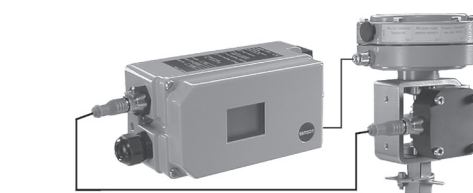

Fig. 4: Type 3730-6
- External position sensor (Fig. 4)